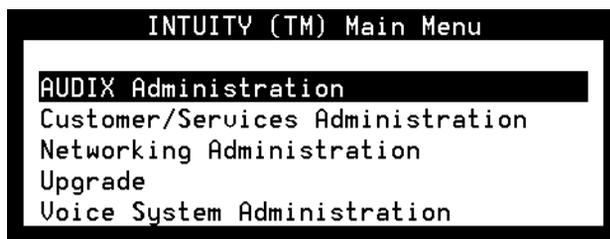

Figure 2-1. Lucent INTUITY Main Menu
1. Start at the Lucent INTUITY Main menu (Figure 2-1).
1. Starting at the Lucent INTUITY Main menu (Figure 2-1), select